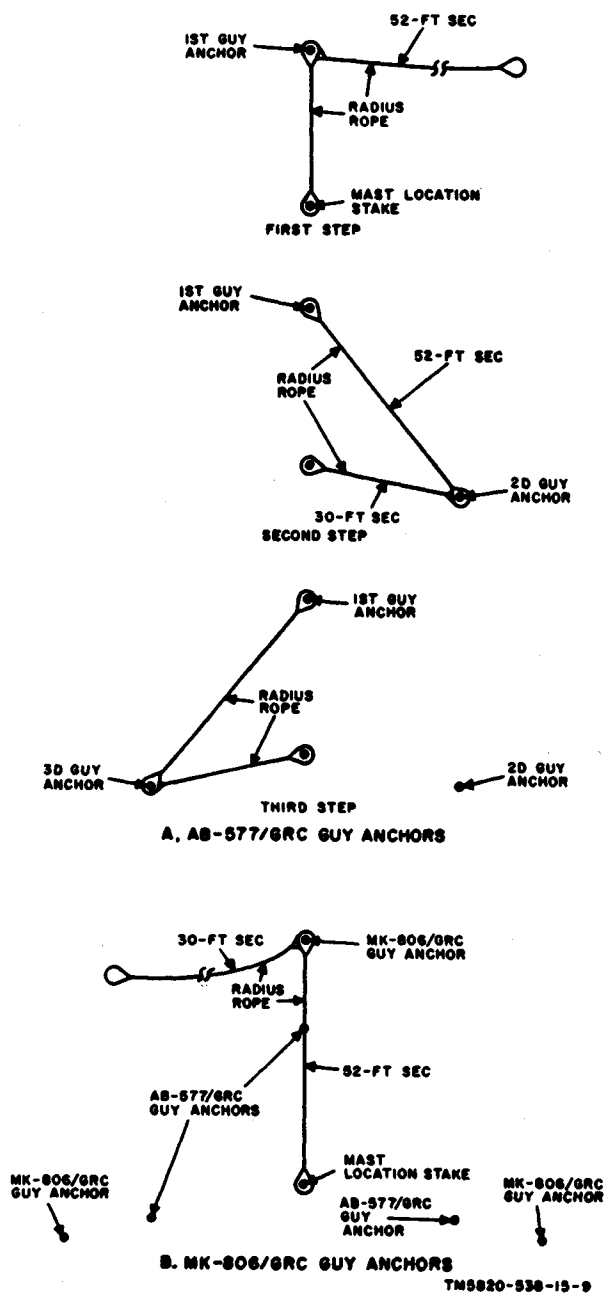

Figure 2-6. Layout of guy anchor positions.
- (3) Push the depression/elevation bracket down to engage the selected slot.
*b. Procedure for Location of Guy Anchors* (fig. 2-6). Mark the location for the AB-577/GRC guy anchors, using the procedures given in (1) below. When the MK-806/GRC
*Notes.* The radius rope has a loop at each end and a loop where the 30-foot and 52-foot sections join (A, fig. 2-6).
(1) When only the AB-577/GRC is to be
- the mast location stake, and mark the position of the first guy anchor 30 feet away (first step, A, fig. 2-6).
*anchor*. Take the remaining loop in the radius rope. Stretch both sections of the rope, and mark the second guy anchor position (second step, A, fig. 2-6).
- (d) Leaving the ends of the radius rope looped over the same two stakes, stretch it in the other direction and mark the third guy anchor position (third step, A, fig. 2-6).
- (2) When the MK-806/GRC is to be added to the AB-577/GRC, refer to B, figure 2-6 and proceed as follows, after the guy anchor locations for the AB-577/GRC ((1) above) have been completed. Loop the end of the 52-foot section of the radius rope over the mast location stake. Mark the position of the three guy anchors for the MK-806/GRC in line with the AB-577/GRC guy anchor locations, 52 feet from the mast location stake.
- (2) Remove the mast location stake (A, fig. 2-6). Position the launcher so that it is lying on the ground, with the center of its base at the stake location, and with the top of the launcher facing midway between the second and third guy anchors.
- (3) Remove one mast section from the mast section carrier; set it aside.
(1) *Launcher.* Attach the three launcher guys (coded blue) to the launcher (fig. 2-15). Adjust the length of the two guy assemblies for the *second* and *third* guy anchors (A, third step, fig. 2-6) close to the actual length (36 feet) required after the launcher is erected. Connect the snubber end of these guy assemblies to the second and third guy anchors.